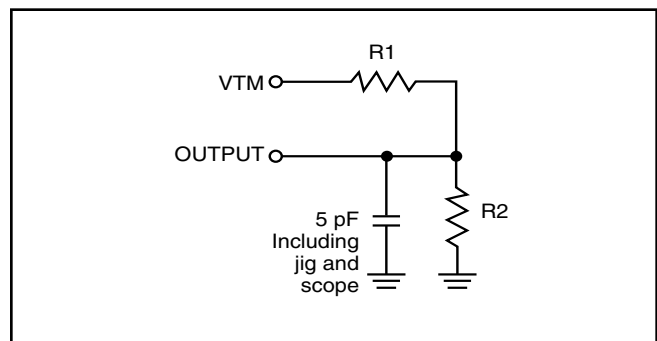

Figure 2
2. Tested with the load in Figure 2. Transition is measured ±500 mV from steady-state voltage. Not 100% tested.
3. Tested with the load in Figure 2. Transition is measured ±500 mV from steady-state voltage. Not 100% tested.